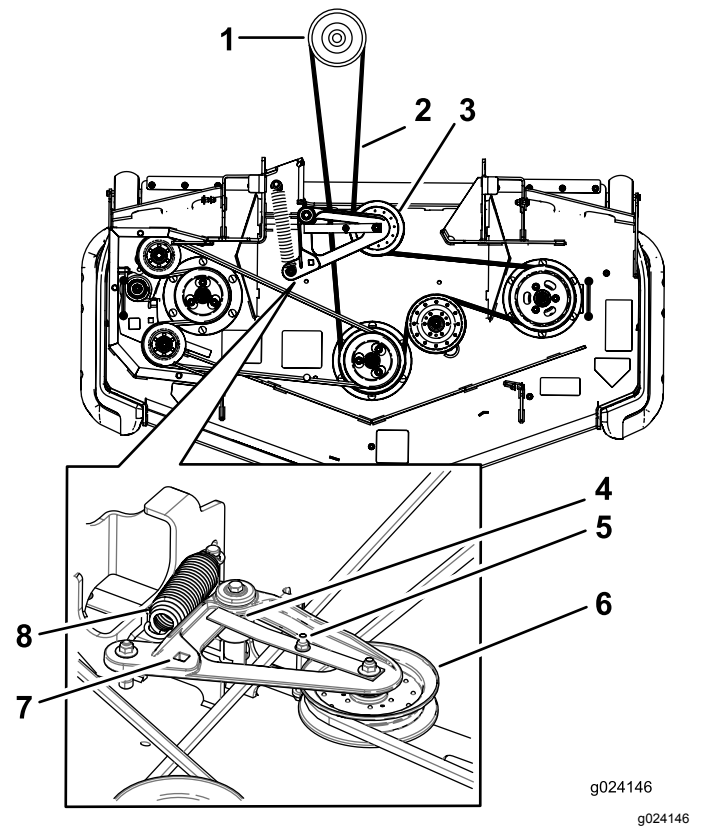

Figure 104
5. Lift up the floor pan and insert a ratchet into the square hole in the deck idler (Figure 104).
6. Rotate the mower deck idler clockwise, lift up on the belt-guide tab, and remove the mower-deck belt from the clutch (Figure 104).